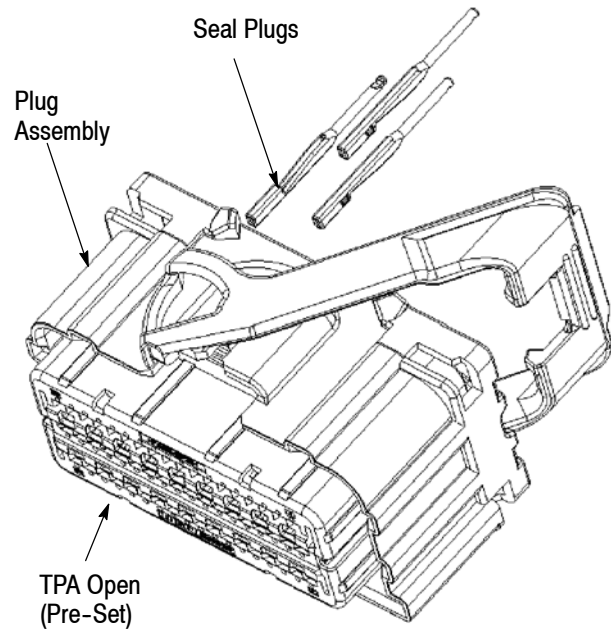

Figure 15
1. Insert a seal plug by grasping the end of the device at the finger grip and sealing surface and push it straight into the appropriate circuit cavity until it stops. Refer to Figure 15.